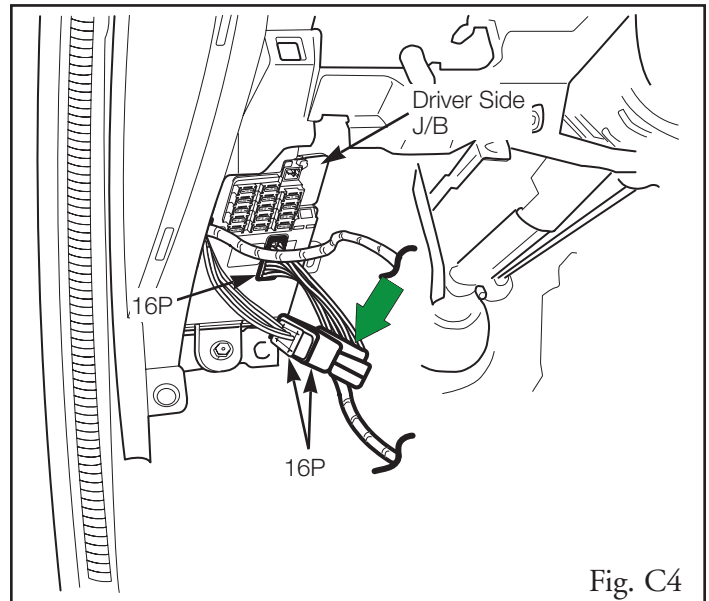

Fig. C4
5. Plug in the V3 harness' 16P connectors between the vehicle harness' 16P connector and the Driver Side J/B. (Fig. C4)